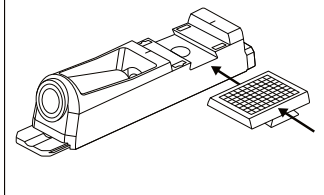

Fig.2
- Measuring the thickness of the workpiece (fig. 2)